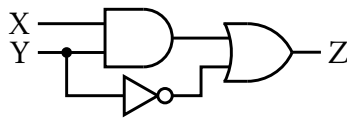

Figure 1: A sample logical circuit.
In this tutorial we take a sample digital circuit design as shown in Fig. 1. We will follow the design procedure to implement this circuit using Xilinx ISE v10.2 software and deploy the final design in to the Digilent Prometheus Spartan 3A FPGA board.
**Step 1 :** Design a logic circuit such as the sample circuit in Fig. 1.